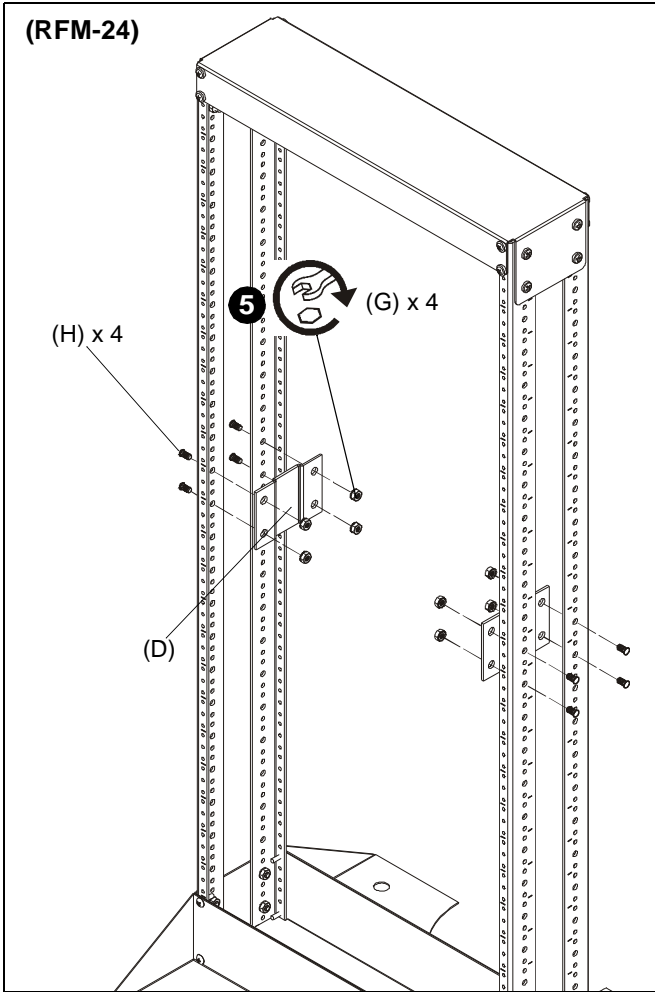
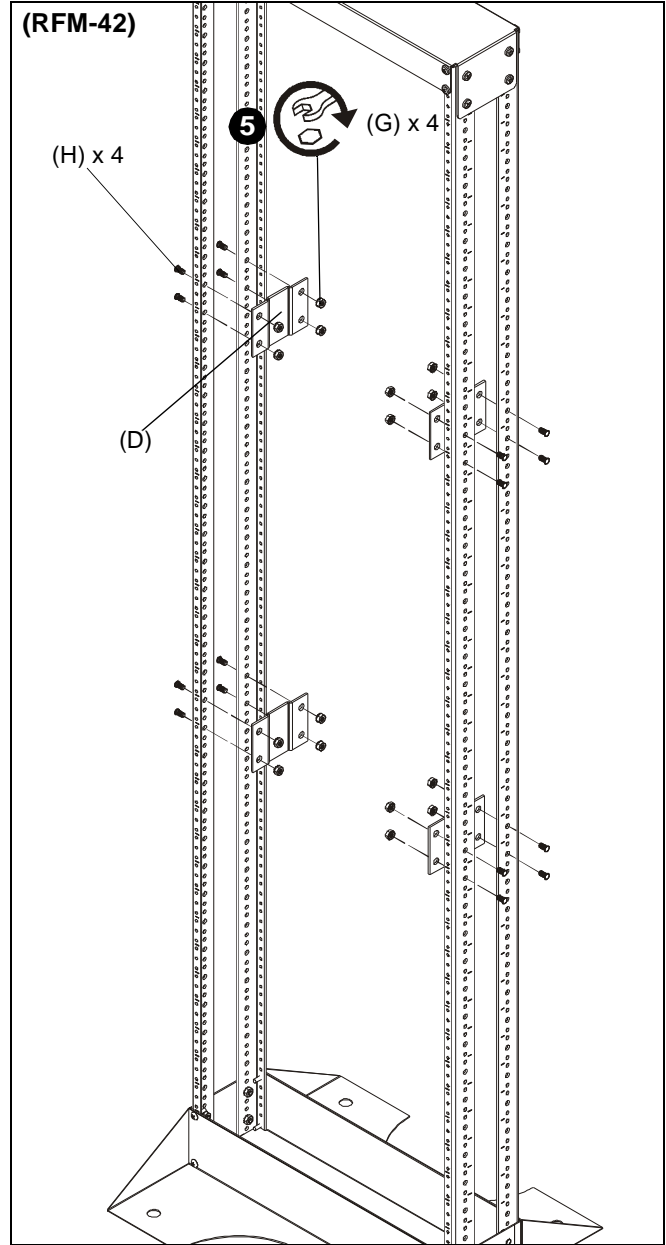

Figure 5
Figure 6
5. Use four press-in studs (H) and four 1/4-20" lock nuts (G) to secure each RFM bracket (D) to rack rails. (See Figure 5) and (See Figure 6)
NOTE: For maximum stability, RFM brackets should be installed approximately half way down rack rails for RFM-24. (See Figure 5) Attach brackets approximately one-third and two-thirds of the way down for the RFM-35 and RFM-42 models. (See Figure 6)